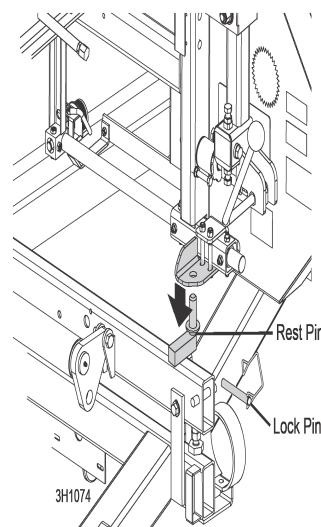

FIG. 4-9
11. Position the hole in the saw head over the travel rest pin. **See Fig. 4-9.**